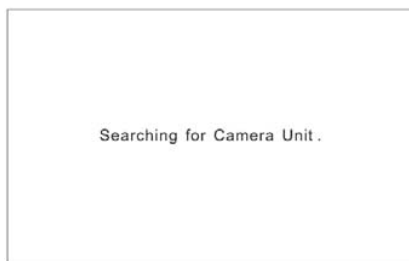

Fig.1
- (1) Connect the SDI video source with the “SDI IN” port CW-S300 transmitter.
- (2) Connect the “SDI OUT” port of CW-S300 receiver with monitor or other receiving devices.
- (3) Power the CW-S300 transmitter and receiver, the transmitter “Power” LED on, “Video” and “Network” LED flash; the receiver “Video” and “Network” LED flash; the monitor or switcher will display as Fig. 1